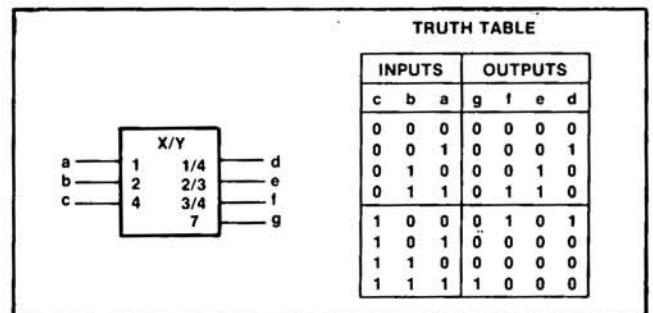

Figure 8-26. An X-Y Code Converter
- a. Labeling each output with a list of numbers representing those internal values that lead to the internal 1 state of that output. These numbers shall be separated by solidi (slant:/) as in Figure 8-26. This labeling may also be applied when Y is replaced by a letter denoting a type of dependency (see paragraphs 8-135 and 8-136). If a continuous range of internal values produces the internal 1 state of an output, this can be indicated by two numbers that are inclusively the beginning and the end of the range, with these two numbers separated by three dots, e.g., 4...9 = 4/5/6/7/8/9, or by;